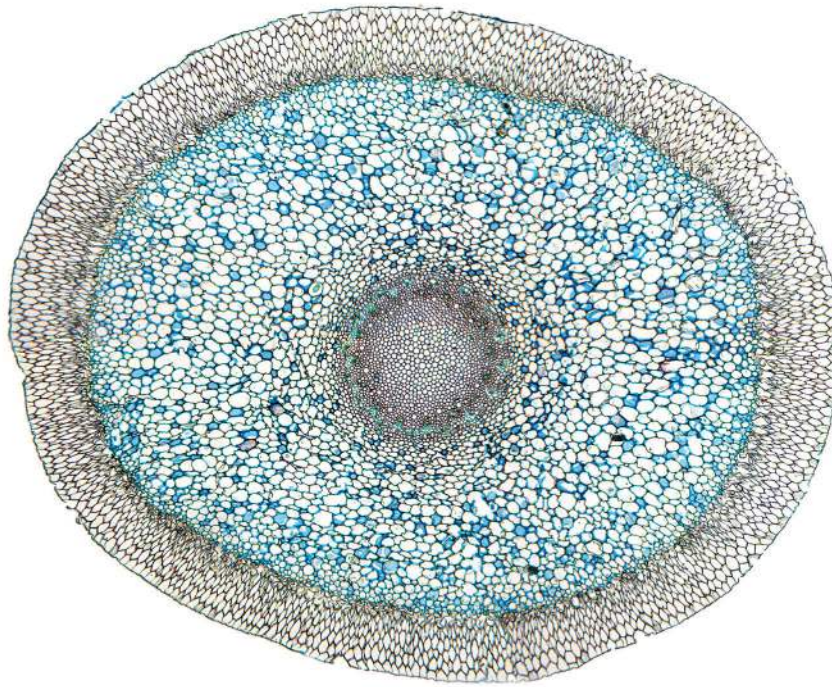
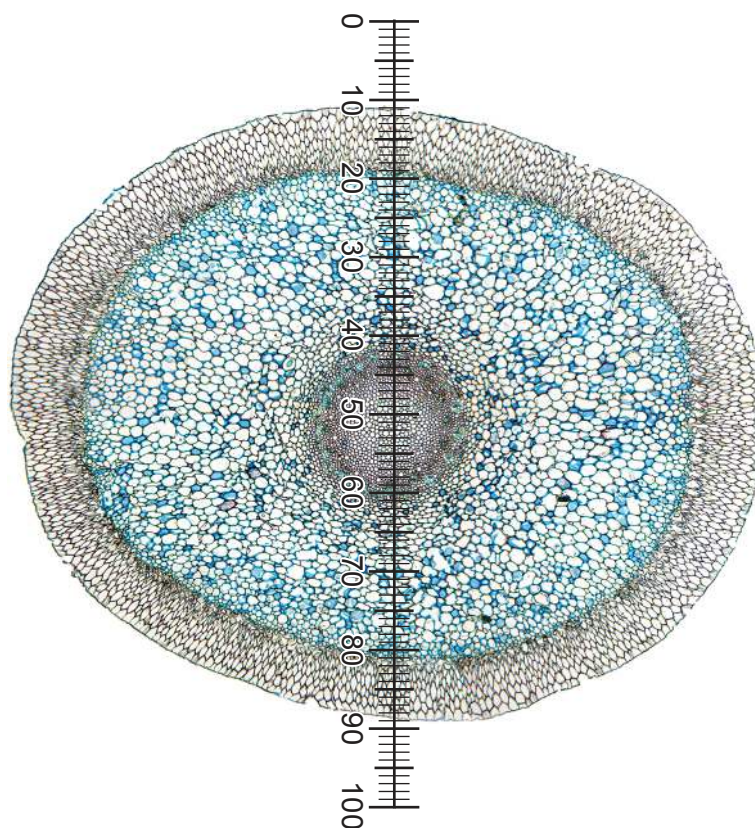

Fig. 2.2
Fig. 2.3
- (b) Fig. 2.2 is a photomicrograph of a stained transverse section through a root of a different type of plant.
Identify the observable differences between the section on **K1** and the section in Fig. 2.2.
- (c) Fig. 2.3 is a photomicrograph of the same root section as in Fig. 2.2, viewed using a microscope with an eyepiece graticule placed across the section.
An eyepiece graticule is shown on Fig. 2.3.
Use the calibration of the eyepiece graticule scale to calculate the actual diameter of the section in Fig. 2.3.